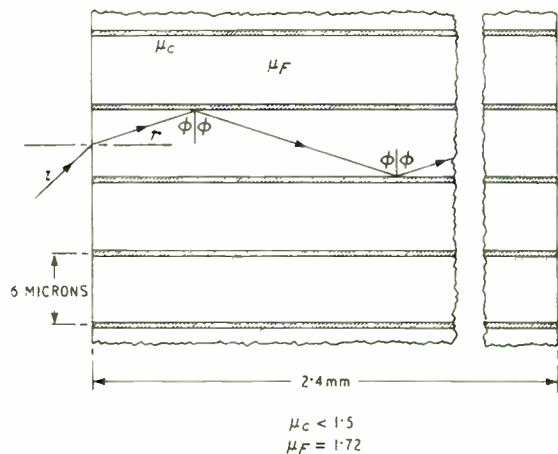
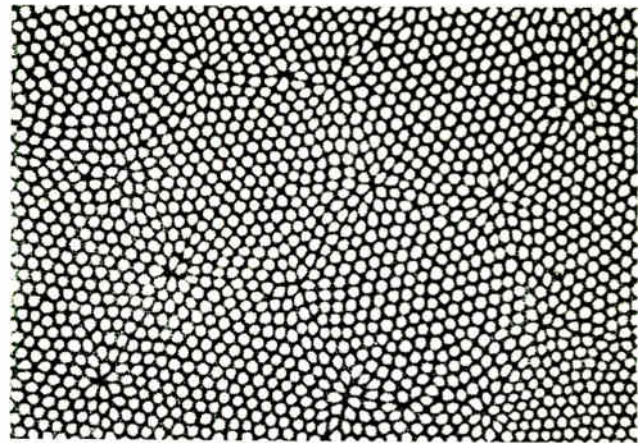

Fig. 1. Section of fibre optic window for E.M.I. vidicon type 9686
Fig. 2. Microphotograph of the fibre optic window surface
Fig. 1 shows a section of the fibre optic window used in the new E.M.I. vidicon tube type 9686. It will be seen that the coating glass is very thin and that the fibres are nearly touching each other, so giving a light transmission area of little less than a normal glass window. Each fibre is nearly 6 microns in diameter and about 2 mm in length, so that the transmission efficiency of each fibre is nearly 100%. The window diameter is about 1 in. Fig. 2 shows a micro-photograph of a portion of the window surface of the 9686 vidicon.
Fig. 1 also shows the path of a light ray in one of the fibres. It can be seen that the angle of the emergent ray to the fibre axis must be the same as the angle of incidence  $i$ . The maximum angle of incidence is computed in the Appendix for a fibre of refractive index 1.72 with a coating of refractive index 1.48. The angle is  $61^\circ$  and so the total acceptance angle of the window is in excess of  $120^\circ$ .
A.W.R.E., Aldermaston, for the photograph shown in Fig. 2. Thanks are also expressed to the directors of E.M.I. Electronics Ltd. for permission to publish this article.